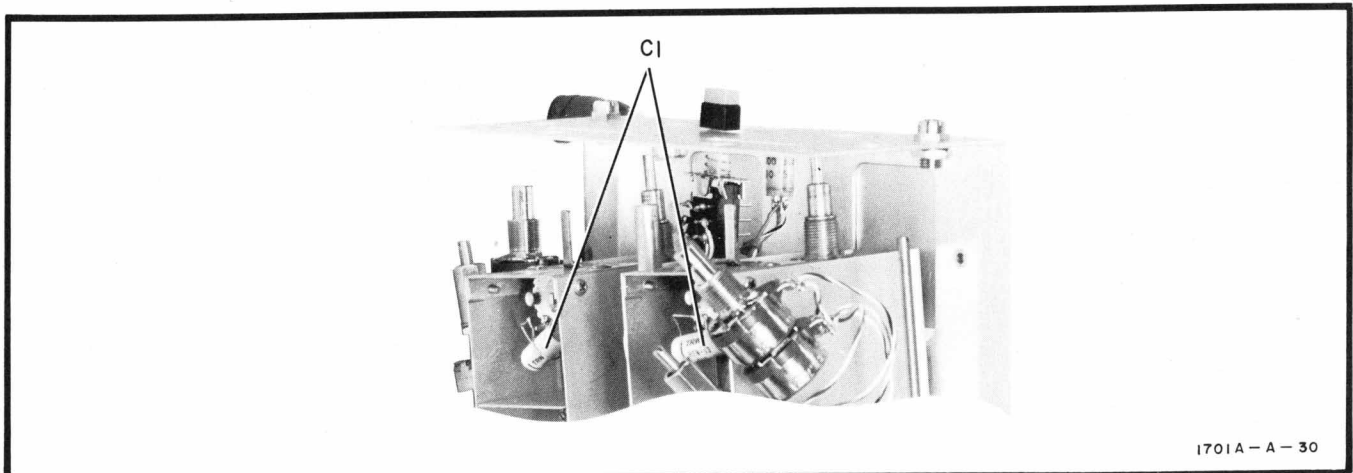

Figure 8-2. Attenuator Removal
- e. Unsolder C1 from BNC input connectors (figure 8-2).